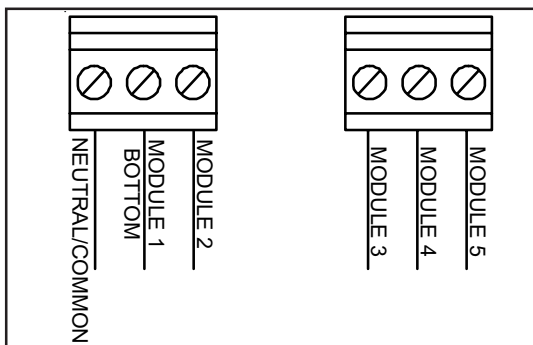

Figure 1. Wiring Cat. No. 102TBS
- c. **Cat. No. 102DMBS** Using the supplied mounting gasket as a template, punch the four mounting holes. Punch the wiring clearance hole in the mounting surface to be sufficiently larger than that in the gasket to ensure the wiring insulation is protected from abrasion by the gasket (without interfering with the mounting screw holes), or provide other appropriate wire insulation abrasion protection as needed. Mount the base to the surface using the (2) screws (supplied).
- a. **Cat. No. 102TBS** Connect field wiring to the terminal block as shown in Figure 1.